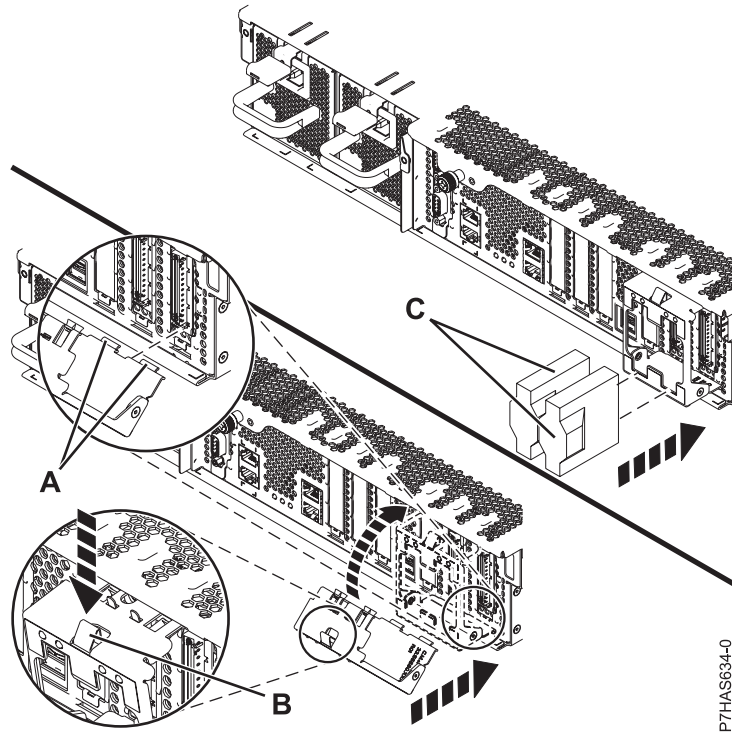

Figure 13. Replacing the cable retention bracket
8. If the cable retention bracket, shown in Figure 13 on page 14 is provided, complete the following steps:
- a. Tilt the cable retention bracket **(A)**, shown in Figure 13 on page 14, to hook the tab at the bottom of the bracket into the slot in the assembly.